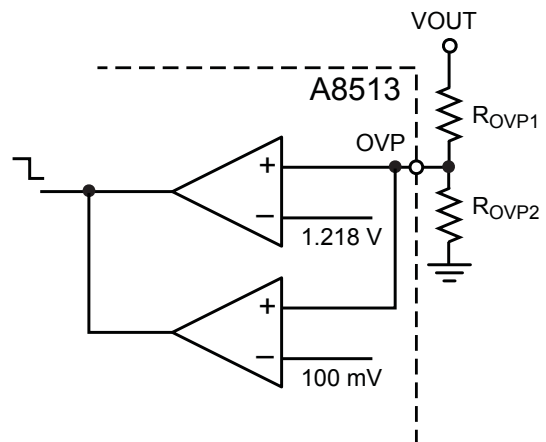

Figure 9. Simplified diagram of the OVP pin functions.
**Overvoltage Protection** The OVP pin has a threshold,  $V_{OVPH(th)}$ , of 1.218 V. A resistive divider can be used to set the  $V_{OUT}$  overvoltage protection threshold up to 45 V (see figure 9). There is no restriction on the value of the resistor chosen, but it is recommended that the divider current be kept between 10 and 60  $\mu$ A. This will minimize the effect of sense current on the accuracy of OVP, and minimize output voltage bleed-off during PWM dimming.